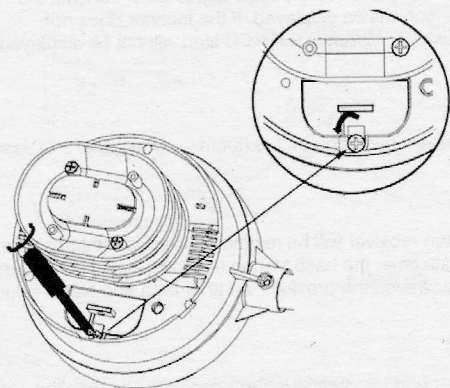

Figure1
1. Turn the screwdriver counter clockwise to loosen the screw, take off the battery department cover (figure 1)